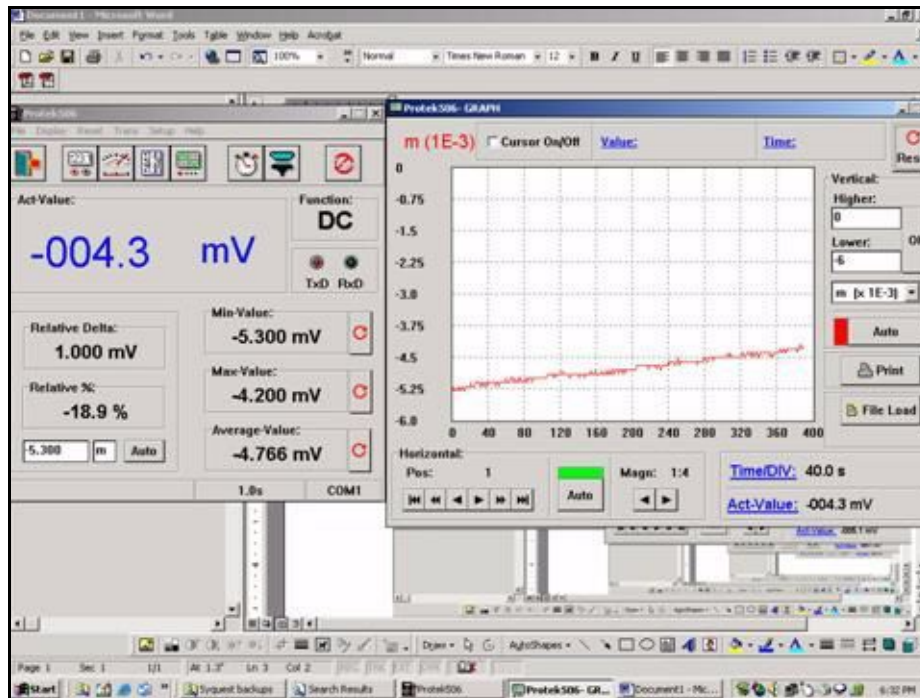

Figure A.4 Example: Vacuum testing a 4700 GPS receiver (second reading with leak apparent)
- Figure A.4 shows the same screen after some time had passed. It was clear that the unit *leaks*. Look at the deviation in the *Relative Delta* and *Relative %* values. In this case, the receiver leaked because the dustcaps had not been inserted.